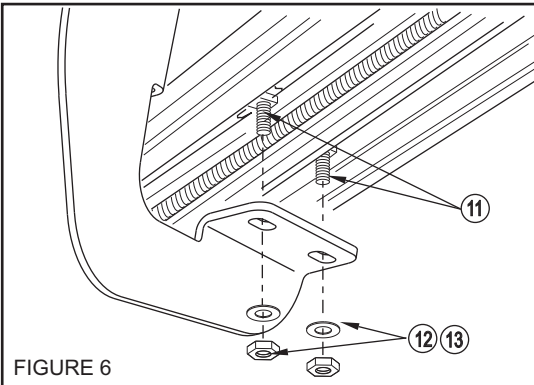

FIGURE 6
- STEP 6.** Attach board to brackets as shown. Make sure board and brackets are properly aligned and tighten fasteners. Recommended torque values are 10 Ft.Lbs. For 5/16" hardware and 22 Ft.Lbs. For M8 hardware. **SEE FIGURE 6.**